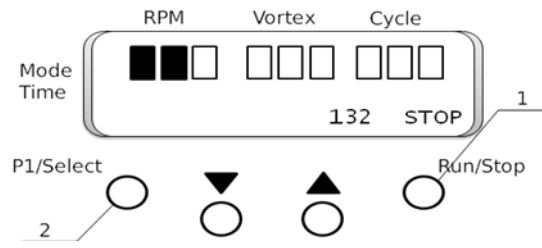

Fig.4 Control panel in RUN mode
- Hold the **P1/Select** key (Fig. 4/2) for 8 seconds. To switch the unit back to advanced mode press again **P1/Select** key and hold it 8 seconds.
- 4.6 Press **Run/Stop** (Fig. 4/1) key to start the first cycle.
- 4.13. At the end of operation unplug the external power supply unit for the mains during operation mode (it is also acceptable to turn off the unit at the end of day during the countdown). In this case on connecting to the power the following message will be displayed ERROR! PROCESS IS NOT COMPLETE. Press **Run/Stop** (Fig. 4/1) key to return the unit into operation in STOP mode.
- 5.2. To switch the unit to advances mode hold the **P1/Select** key (Fig. 4/2) for 8 seconds. To switch the unit back to standard mode press again **P1/Select** key and hold it for 8 seconds.